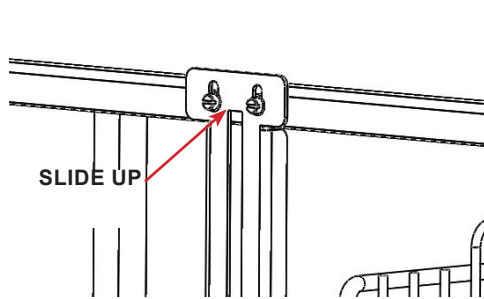

FIGURE 3.16 - Latch Top Keyhole Slot
**STEP 2:** Lift the center latch bar upward to clear the keyhole slots located at the top of the center latch bar. See FIGURE 3.16